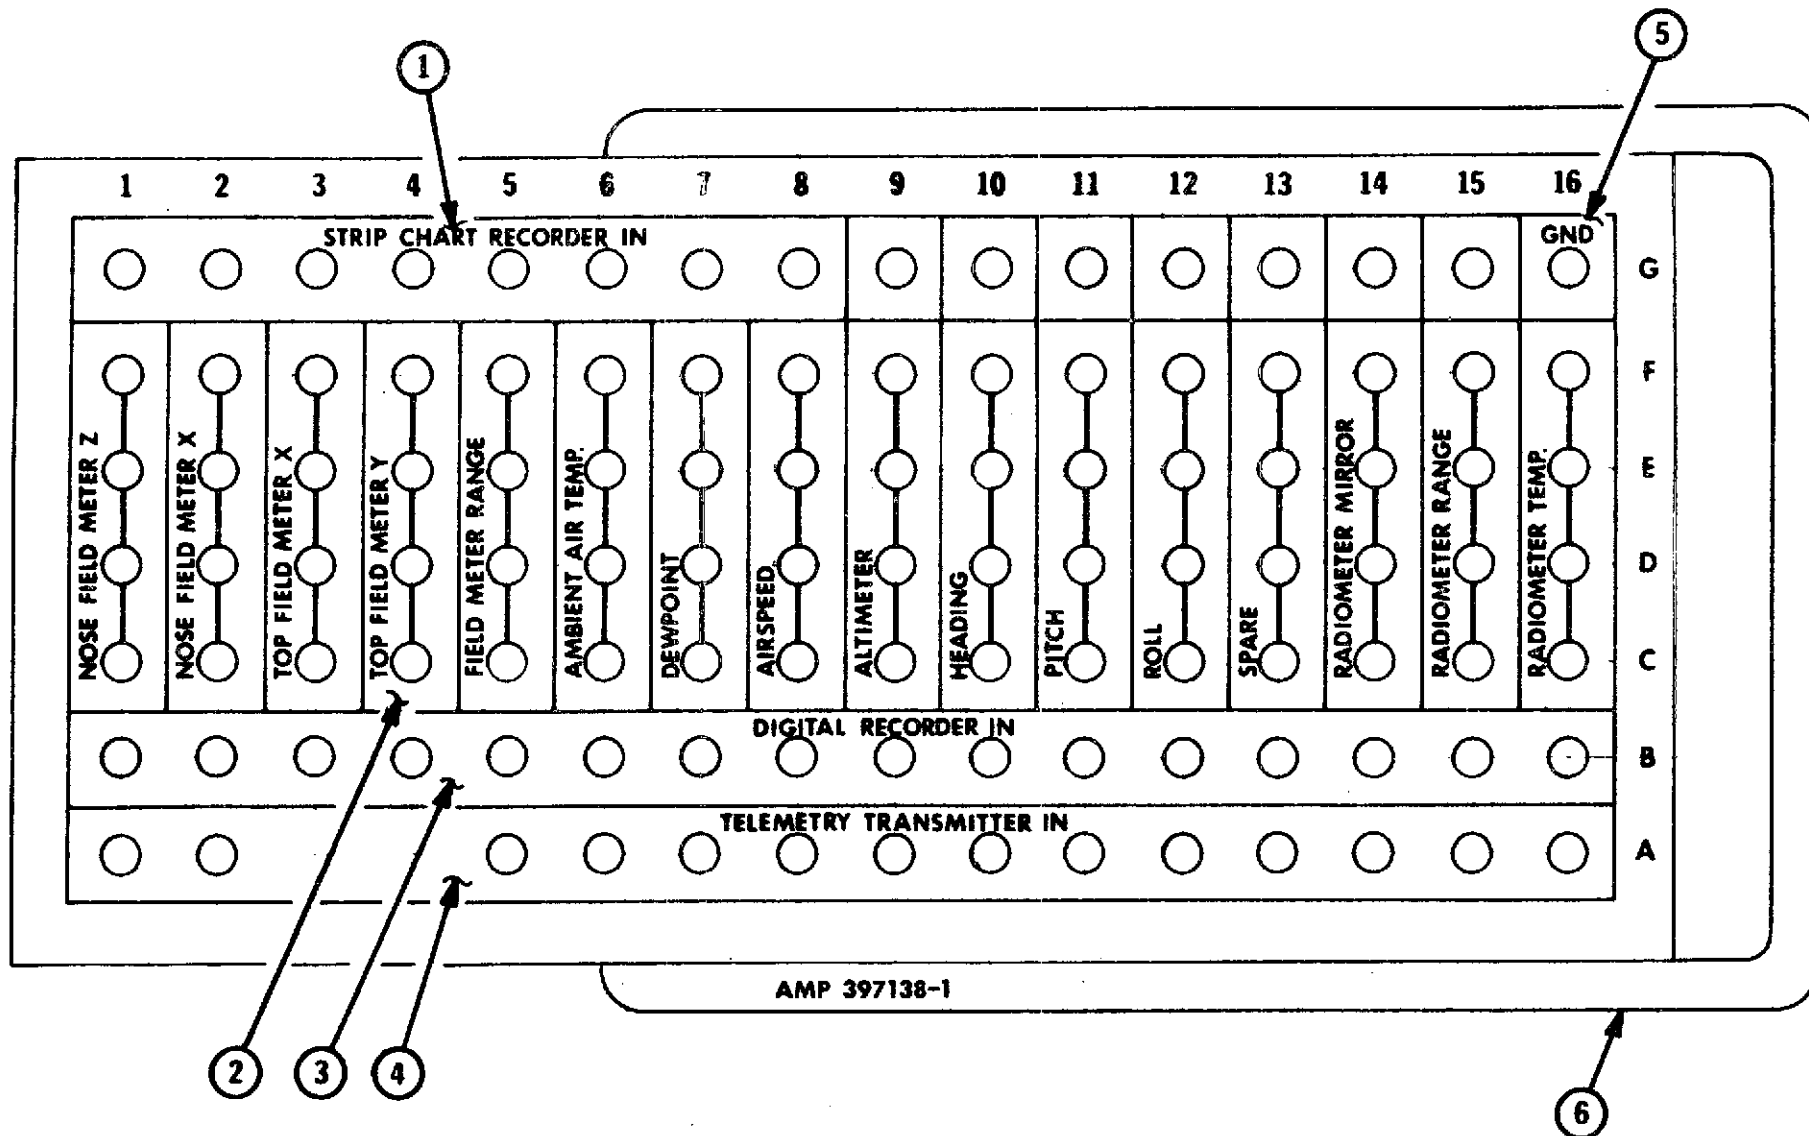

Figure 2-10. System Patch Panel
2.11 SYSTEM PATCH PANEL (FIGURE 2-10)